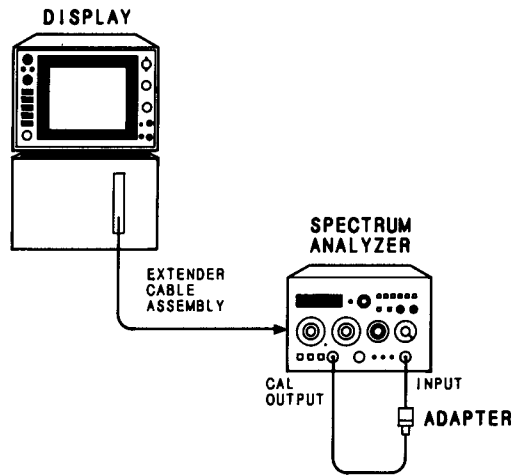

FIGURE 5-5. CRYSTAL AND LC BANDWIDTH FILTER ADJUSTMENTS TEST SETUP
2. Connect equipment as shown in Figure 5-5.